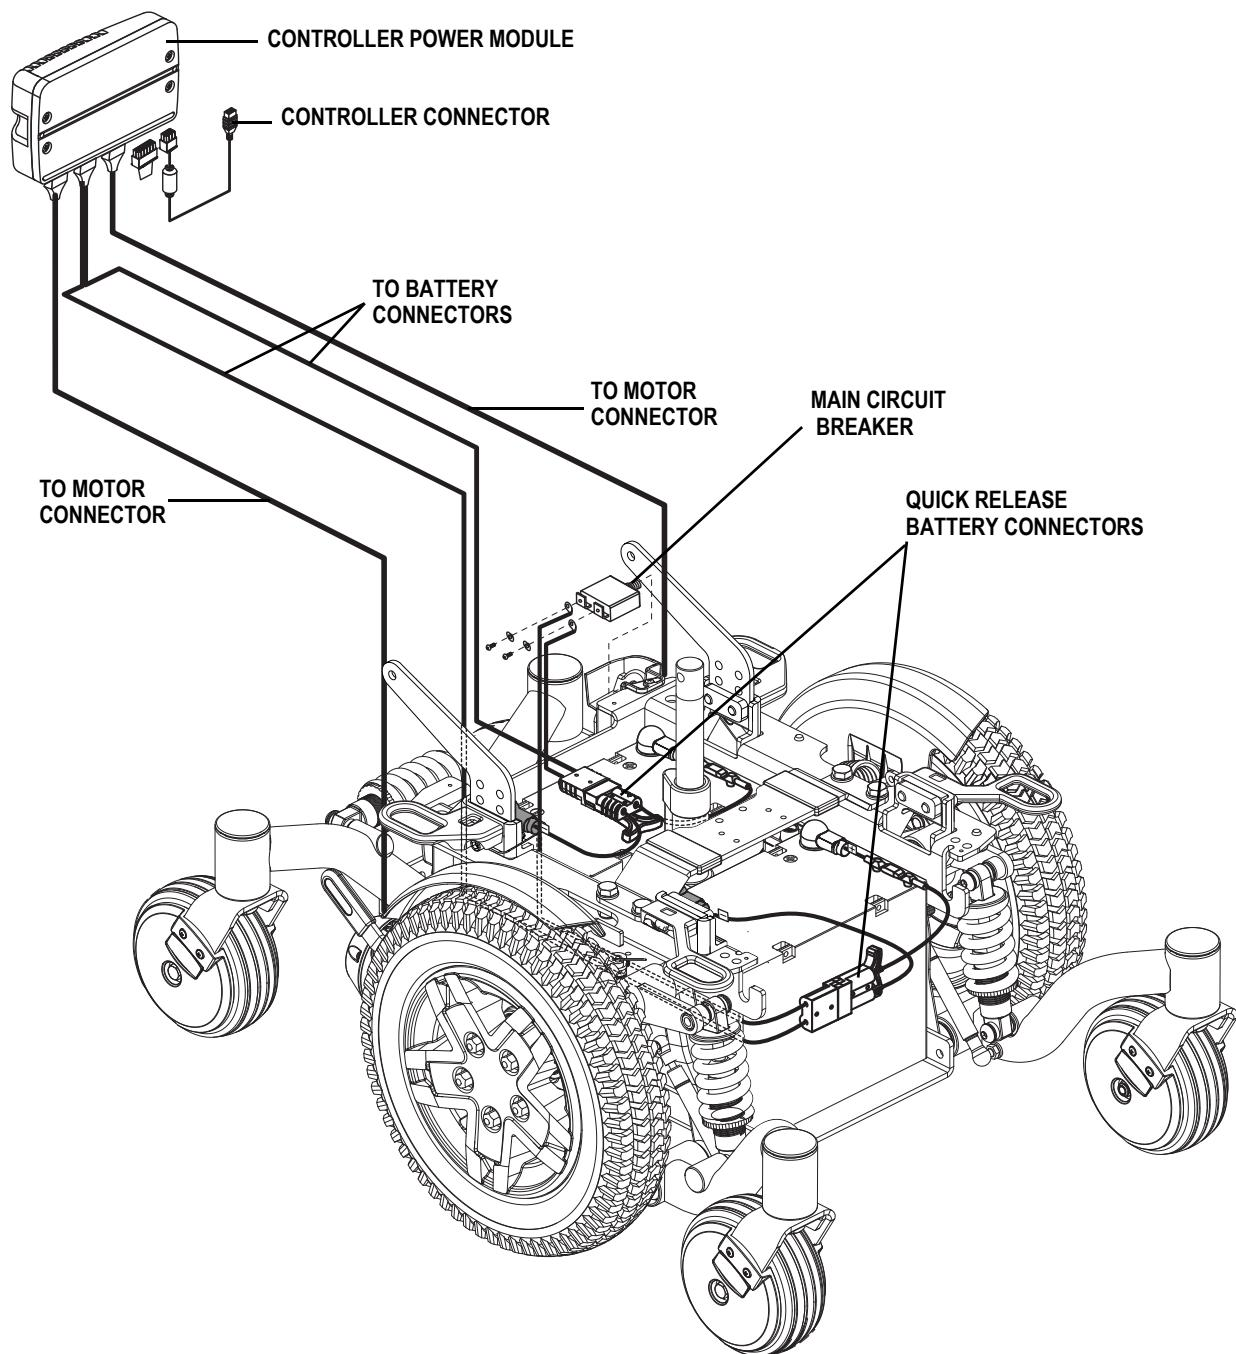

Figure 3. Quantum Q4 Electrical Components
The electrical components consist of the controller assembly, the batteries, and the motors. The batteries, motors, and controller power module (if equipped) are located on the power base assembly. The controller is located on the seat assembly. Connectivity between the controller and the motors, batteries, and the battery charger is provided by one or more wiring harnesses. See figure 3.
4. Plug the controller connector into the rear of the power base. **See figure 3.**